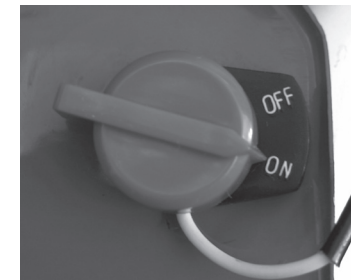

Fig. 7
2. Set the engine switch to the ON position (ON, 1) (Fig. 7).